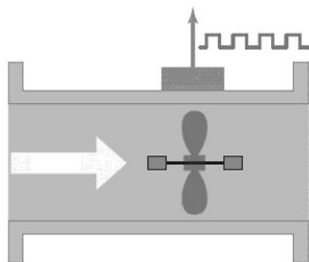

Figure 6-18 Sensor for question 34.
34. The sensor illustrated in Figure 6-18 is a 34._____